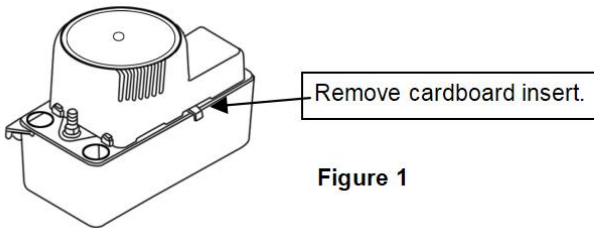

Figure 1
2. Carefully unpack the pump. Remove the cardboard packing from the motor cover air slots. Carefully slide the packing away *from* the pump. This packing is used to prevent switch movement during shipment (Figure 1).